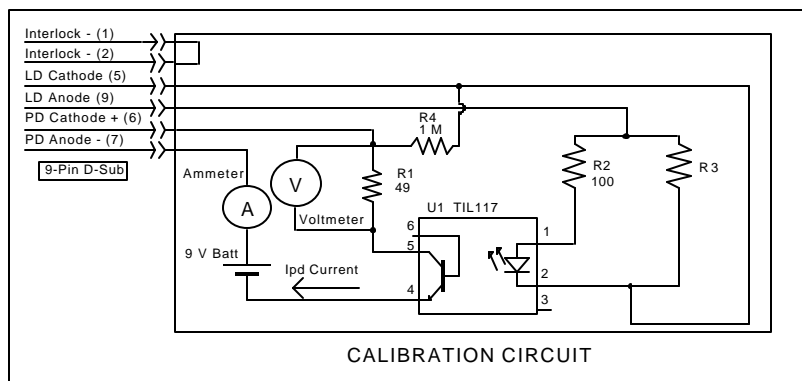

Figure 5.1 I_{PD} Calibration Circuit
It will be necessary to connect various loads and circuits to the outputs of the module for the calibration procedure. The devices required for most of the calibration loads are listed in Table 5.2. A schematic is shown in Figure 5.1 for the photodiode calibration circuit, with the required components listed in Table 5.3.
PHOTODIODE MONITOR CALIBRATION (See schematic in Fig. 5.1)
- a. With the output off, connect the IPD calibration circuit, Figure 5.1, to the laser connector.